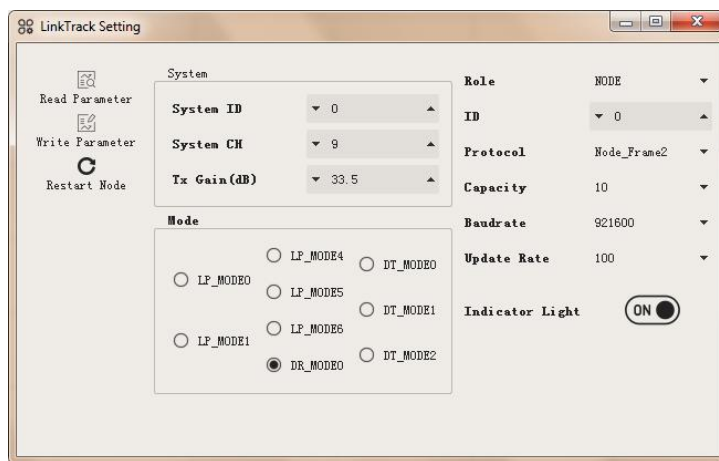

Fig. 11: N0 Setting diagram under DR_MODE0
1. **【Setting system】** Prepare 5 nodes and configure them with different ids through NAssistant, namely N0~N4. Fig. 11 shows the Setting of N0. For other node Settings, only the ID is generally different.